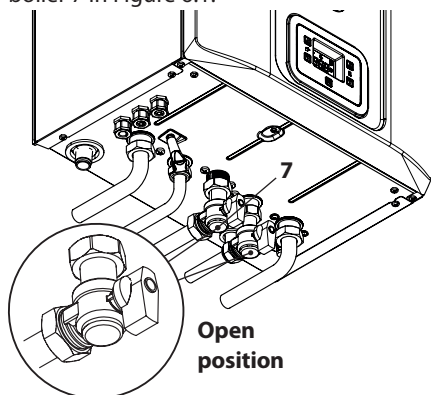

Figure 6.1
- Open the cock for the gas meter and for the boiler 7 in Figure 6.1.